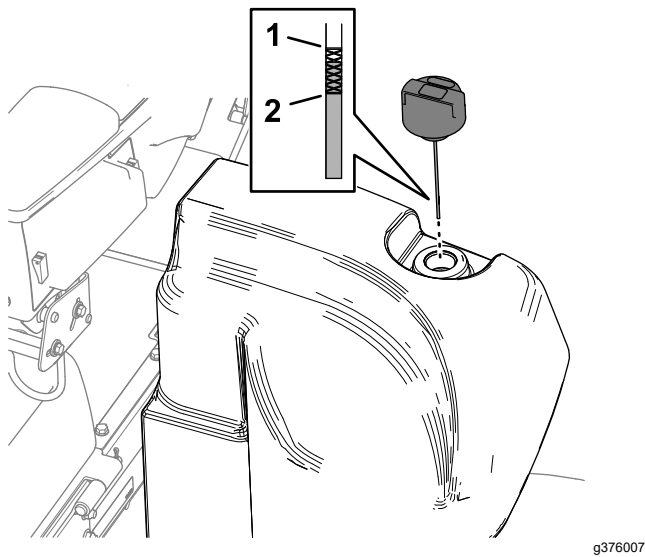

Figure 104
2. Clean the area around the filler neck and the cap of the hydraulic tank (Figure 104).